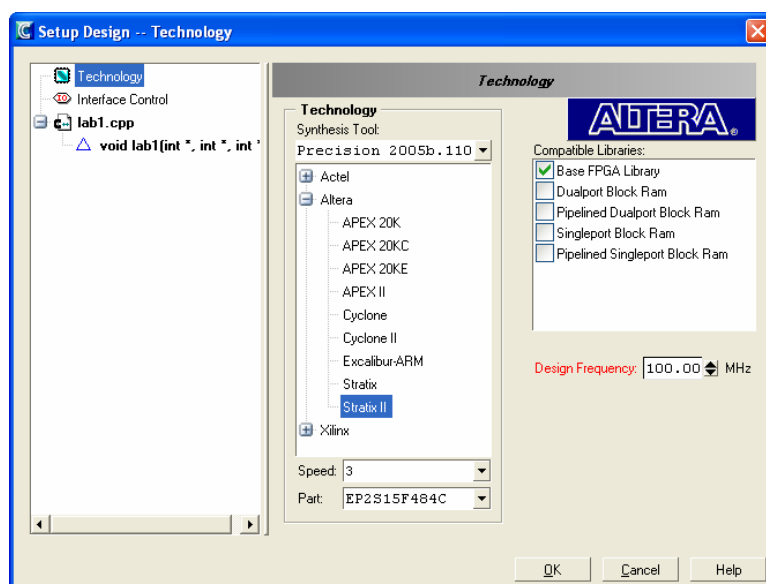

Figure 3 Setting the Technology
- ✓ Click on “Setup Design” in the design bar and set the technology to Altera Stratix II (Default part and speed grade). Set the clock frequency to 100MHz (Figure 3).